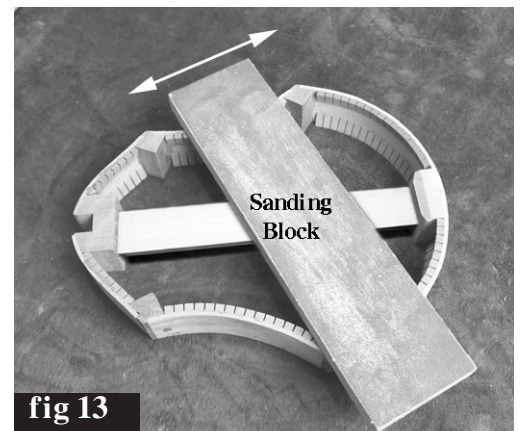

fig 13
**Sanding Block, 60-80 grit (see fig 13 below)**
Glue kerfing around the entire inside frame, on both front and back edges, as shown in fig 13.
This type of sanding block will rest across the frame of the body, allowing you to sand the edges perfectly flat (fig 13). The goal is to remove glue blobs and to sand any high spots down flush with the ribs.